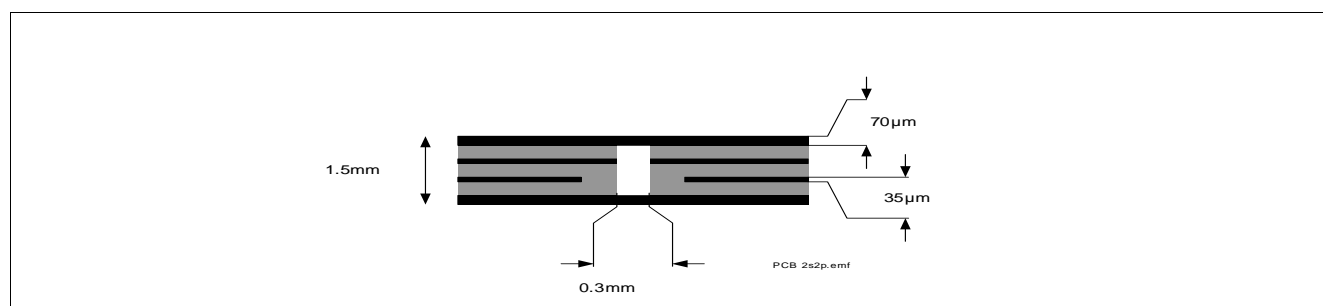
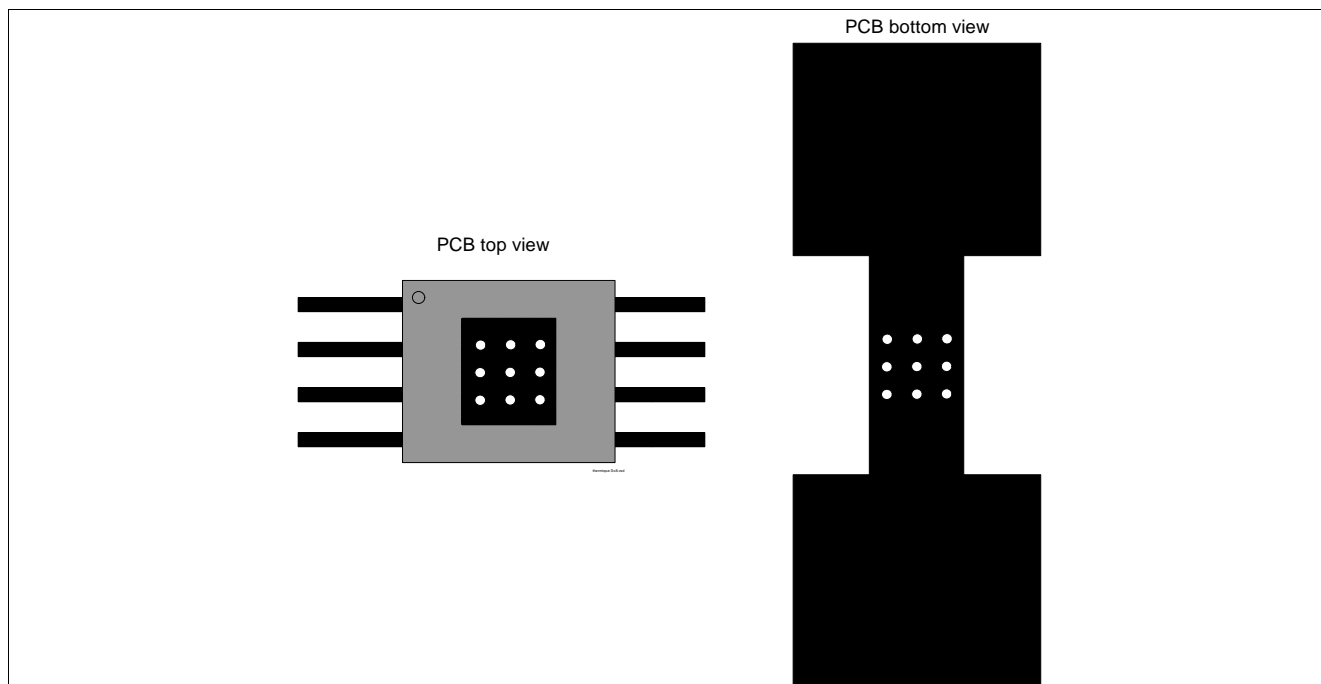

Figure 4 2s2p PCB Cross Section
Figure 5 PC Board Top and Bottom View for Thermal Simulation with 600 mm² Cooling Area
2) Specified R_{thja} value is according to JEDEC JESD51-2,-5,-7 at natural convection on FR4 2s2p board; The product (chip + package) was simulated on a 76.4 x 114.3 x 1.5 mm board with 2 inner copper layers (2 x 70 μ m Cu, 2 x 35 μ m Cu). Where applicable, a thermal via array under the exposed pad contacts the first inner copper layer. Please refer to Figure 4 and Figure 5.